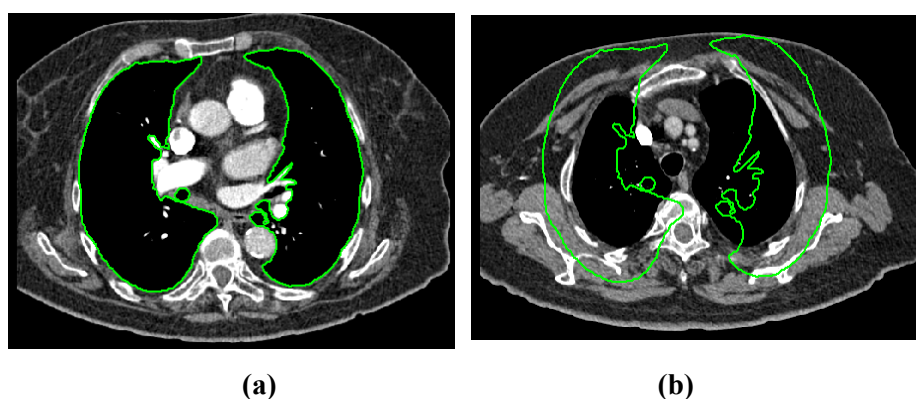

Figure 231 – Contour on the last image (a), Accepted nearest contour from the last image into the 1st image (b)
3. The nearest drawn contour is then automatically copied to the current image (see Figure 231).